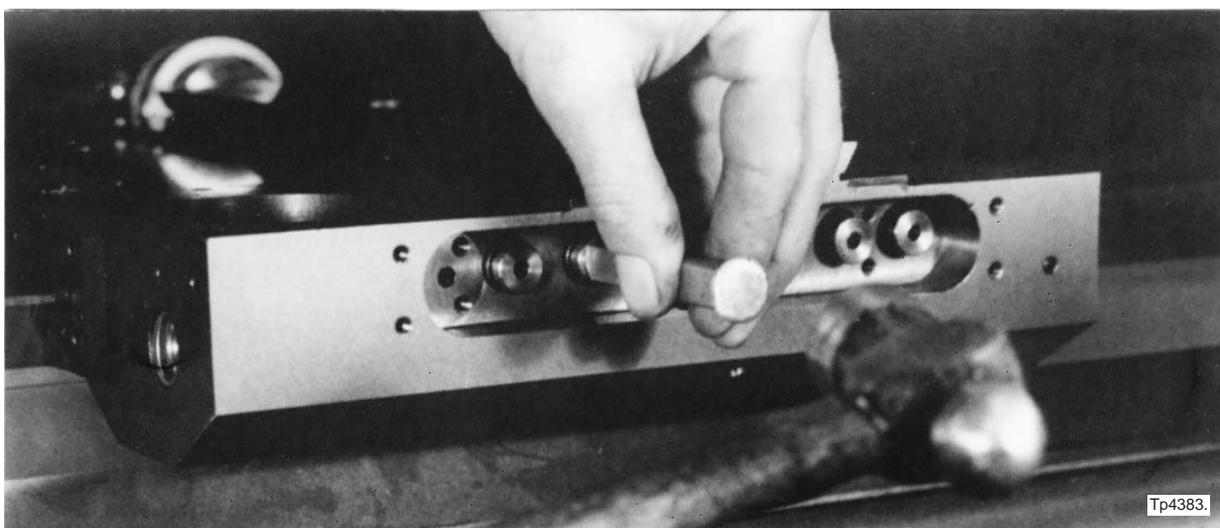

Figure 1.57 - Oil Feed Tube Assembly Installation
25. Gently seat the oil feed tube by placing the seating tool against the oil feed tube assembly, as shown in Figure 1.57, and gently tapping the seating tool with a hammer.